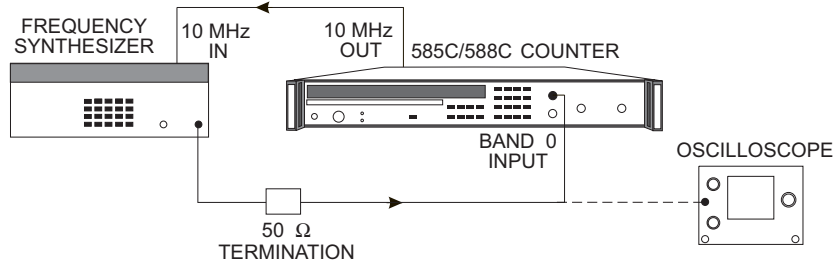

Figure 6-1. Band 0 Range and Sensitivity Test Setup (100 Hz to 10 MHz)
1. Connect equipment as shown in Figure 6-1.